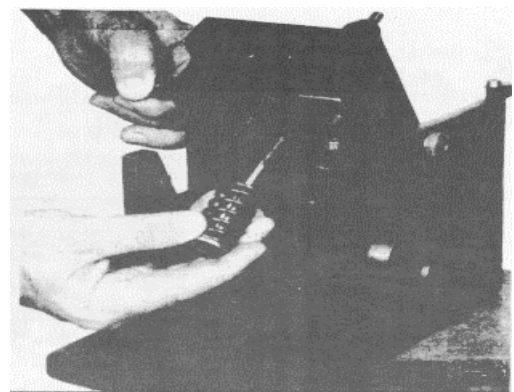

Fig. 24
- (3) Refer to Fig. 24 and remove the plunger follower, plunger and spring as an assembly.